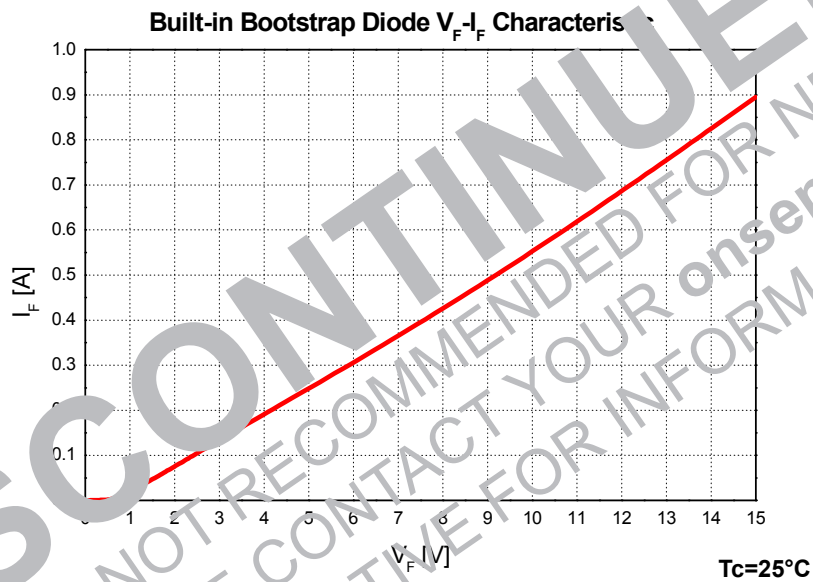

Figure 2 Built-in Bootstrap Diode Characteristics (Typical)
- Built-in bootstrap diode includes around 15Ω resistance characteristic. Please refer to Figure 2.